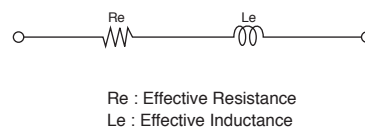

Fig. 2-4 Equivalent Circuit of CERALOCK®
Considering the limited frequency range of  $F_r \leq F \leq F_a$ , the impedance is given as  $Z = R_e + j\omega L_e$  ( $L_e \geq 0$ ) as shown in Fig. 2-4, and CERALOCK® should work as an inductance  $L_e$  (H) having the loss  $R_e$  ( $\Omega$ ).